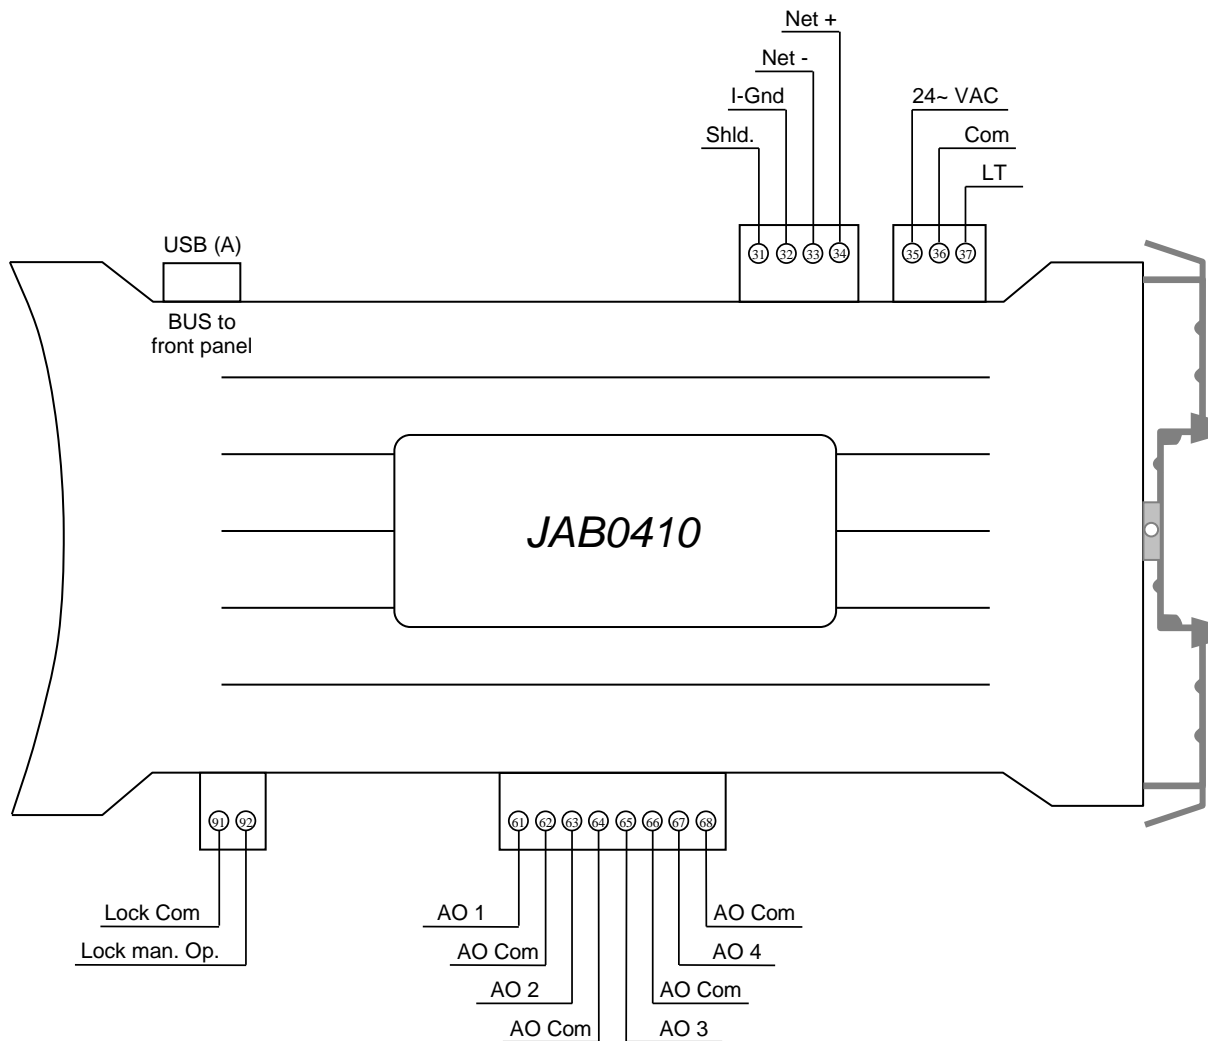

Figure 1: JAB0410 Module Wiring Interface
1. Terminate wiring per engineering drawings (see Figure 1).